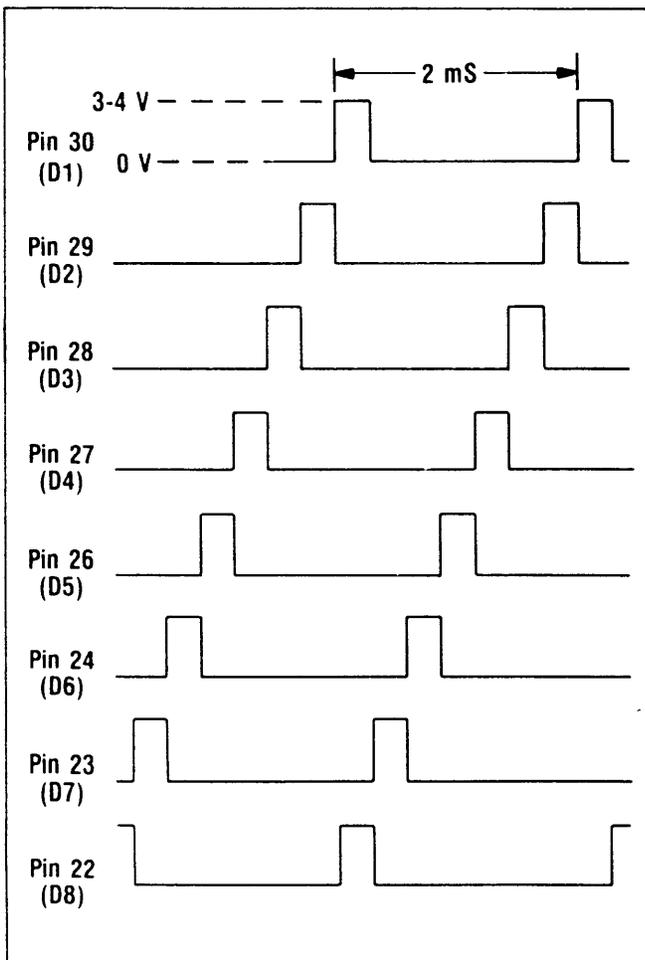

Fig. 13. Digit strobe waveforms from IC6.
- a. Digit strobes and time base. Check for the digit strobe waveforms of Fig. 13 at IC6 pins 22-24 and 26-30. If these are normal, proceed to step 4b. If not, check the output of the time base oscillator at pin 38 for an approximate sine wave of frequency 10 MHz and peaks of 0 and 2 V¹. If normal, proceed to step 4b; if no output is obtained, check oscillator components and IC6.